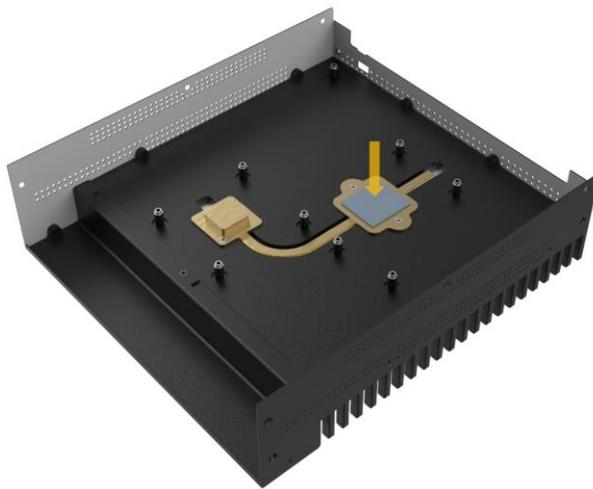

Figure 3-4: CPU Thermal Pad Installation
Step 4: Place a thermal pad on the heat conductive block of CPU (**See Figure 3-4**).